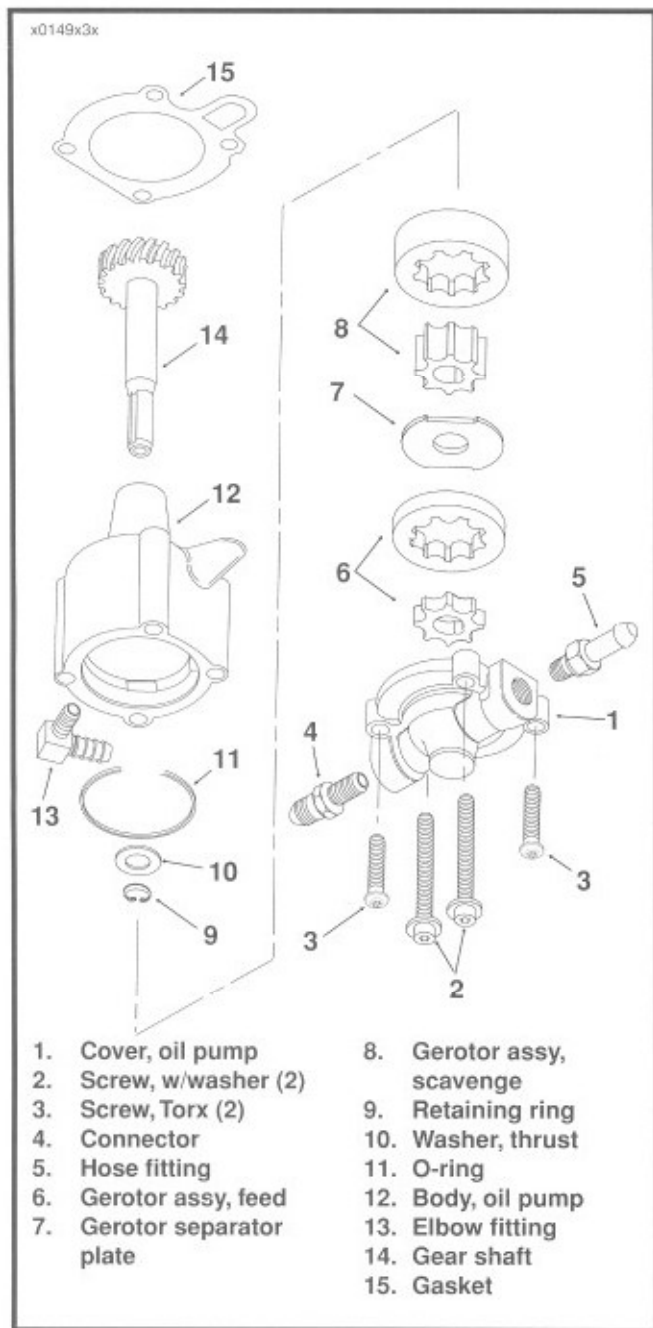

Figure 3-55. Oil Pump
2. During the next 180° of rotation, the size of the cavity decreases forcing oil into the outlet. See Figure 3-55.
3. See Figure 3-55. Carefully remove two screws (2) that secure pump to crankcase. Pump will drop with screws removed. Discard mounting gasket (16).
4. Remove two Torx screws (3). Lift cover (1) off body (12). Remove and discard O-ring (11).
5. Slide both pieces of feed gerotor set (6), separator plate (7) and both pieces of scavenge gerotor set (8) off gear shaft (14).
6. Remove and discard retaining ring (9). Remove thrust washer (10) and gear shaft (14).
1. See Figure 3-55. Install gear shaft (14) through body (12). Position thrust washer (10) over end of shaft. Install **new** retaining ring (9) into groove in shaft.